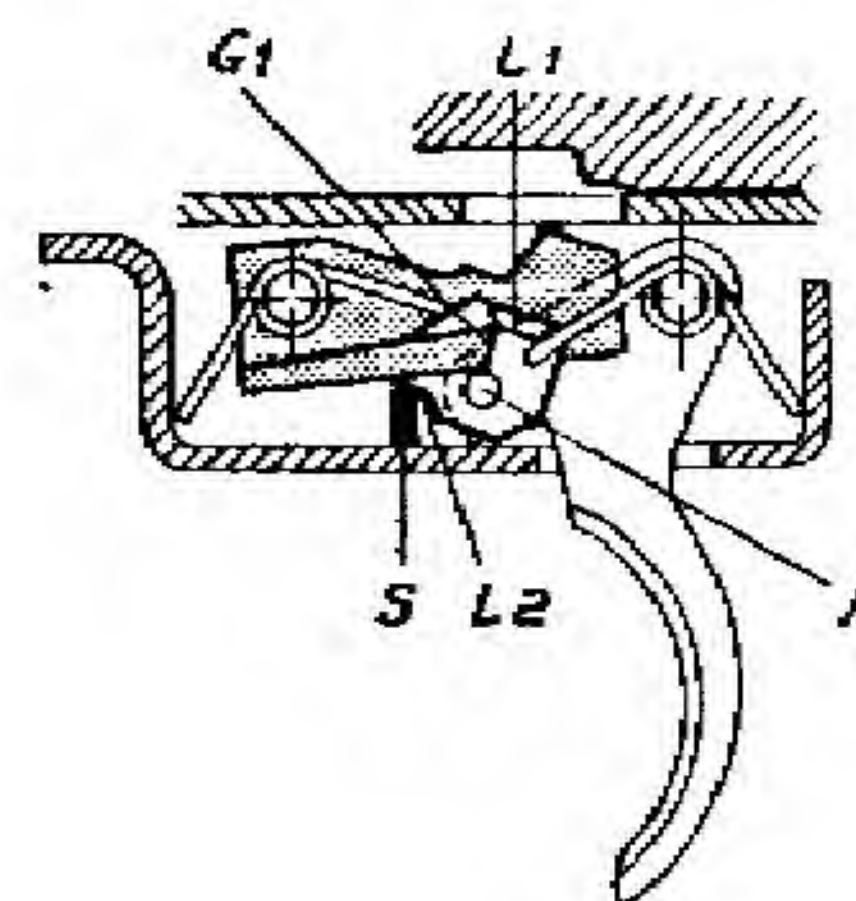

Fig. 13.
The shoulder (L 2) of the intermediate sear lever strikes against the change lever (S) (fig. 13). The firer feels the initial check.
Continued pressure on the trigger forces the intermediate lever to pivot round the joint pin (A) to the rear and the ramps (L 1) of this lever depress the sear (fig. 13) slightly. The breech-block, pushed forward by the return spring then trips the sear.